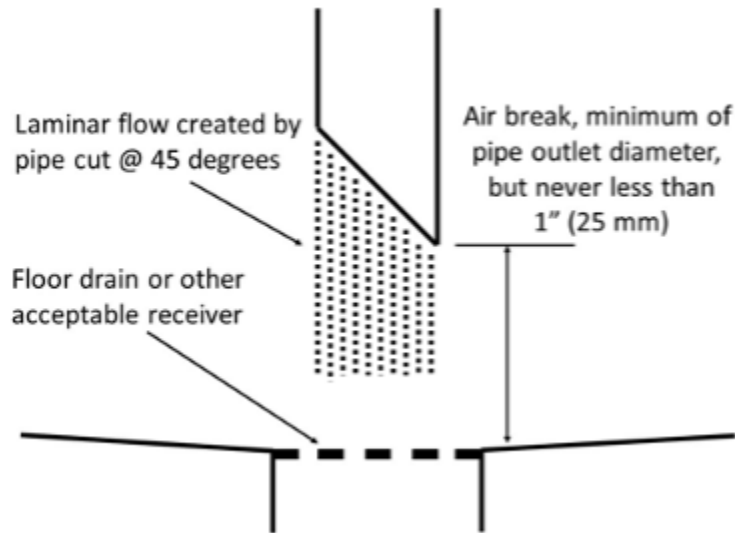

Figure 24. Air break
- Figure 24. “Air break” by Camosun College is licensed under a CC BY-NC-SA licence.